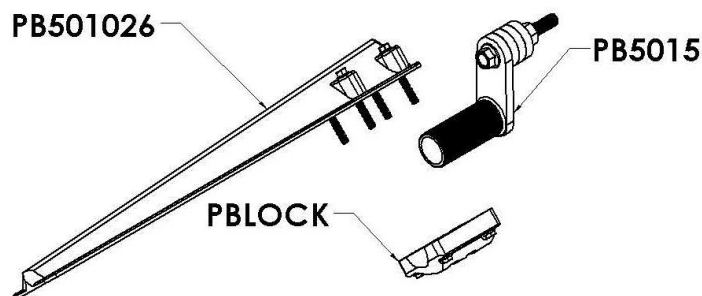

Figure 6
- A. Use four 5/16" x 3" bolts to attach the bracket (part number PB501026) and the backing block (part number PBLOCK) to the steel swivel (part number PB5015). See Figure 6. **Make sure the pipe end of the PB5015 is fully engaged into bracket.**